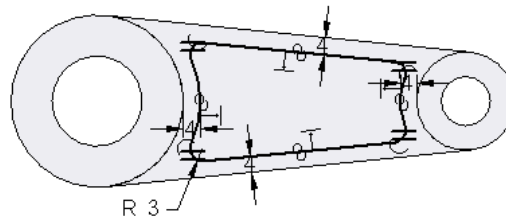

Figure 5-64 Sketch after adding the fillet
- Invoke the **Sketch** tool and draw a sketch on the top plane, refer to Figure 5-64.
7. Add a fillet of radius 3 to the vertices of the projected loop. The sketch after adding the fillet is shown in Figure 5-64.